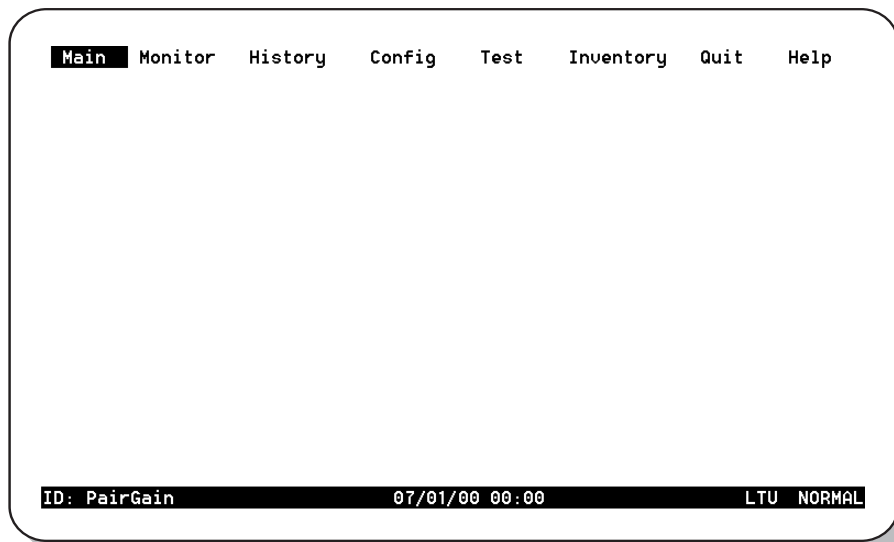

Figure 13. Console Screen Menu Bar
- 2 Type the password at the prompt or press **ENTER** if a password has not been customized. The console screen menu bar displays (Figure 13).